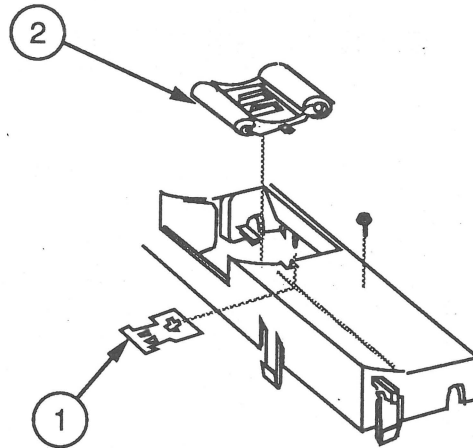

FIGURE 20
5. Replace the pinch rollers (Figure 20, #2) and metal plates (Figure 20, #1) in the openings on the new paper guide. Make sure that the rollers sit flat in the opening.